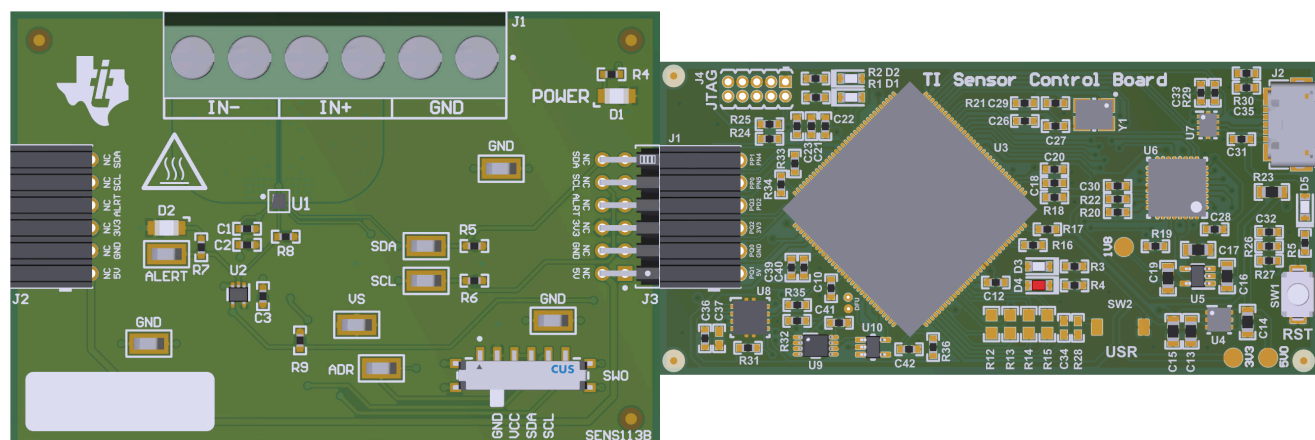

Figure 2-1. EVM (Left) Connected to SCB Controller (Right)
- Attach the EVM to the SCB Controller as shown in Figure 2-1.
To use the EVM with the SCB Controller (sold separately), connect the EVM as shown in Figure 2-1.